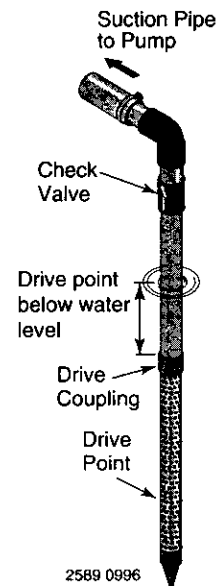

Figure 2 – Driven Point Installation
1. Connect the suction pipe to the drive point as illustrated in Figure 2. Keep horizontal pipe run as short as possible. Use Teflon tape on male pipe threads. Multiple well points may be necessary to provide sufficient water to pump.
2. Install a check valve in piping as shown in Figure 2. Flow arrow on check valve must point toward pump.
- To aid priming on driven point installations, install a line check valve as shown in Figure 2. Be sure check valve flow arrow points toward pump.